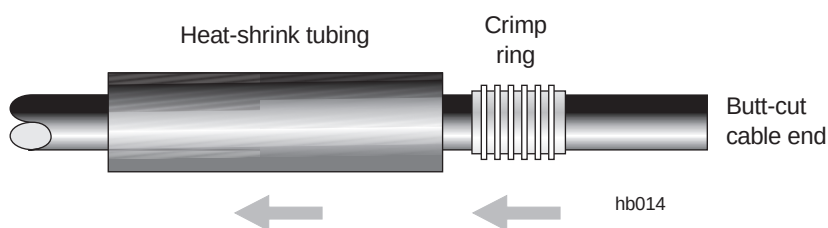

Figure C-2 Slipping the crimp ring and heat-shrink tubing onto the cable
3. Slip the crimp ring and a piece of heat-shrink tubing (HNS9007488–0005) onto the cable, as shown in figure C-2.